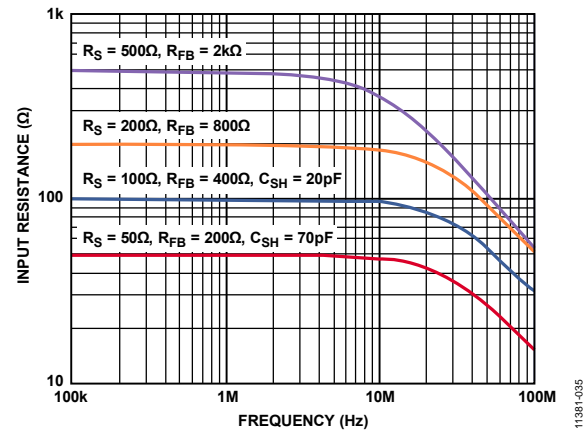

Figure 34. R_{IN} vs. Frequency for Various Values of R_{FB} (Effects of R_{SH} and C_{SH} Are Also Shown)
The bandwidth (BW) of the LNA is greater than 80 MHz. Ultimately, the BW of the LNA limits the accuracy of the synthesized R_{IN} . For $R_{IN} = R_s$ up to about 200 Ω , the best match is between 100 kHz and 10 MHz, where the lower frequency limit is determined by the size of the ac coupling capacitors, and the upper limit is determined by the LNA BW. Furthermore, the input capacitance and R_s limit the BW at higher frequencies. Figure 34 shows R_{IN} vs. frequency for various values of R_{FB} .